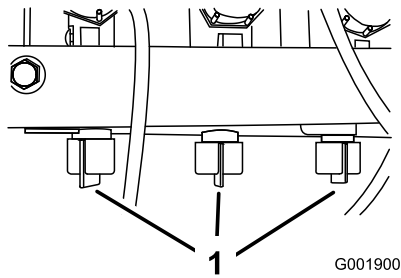

Figure 22
10. Adjust the boom bypass valve (Figure 22) under the boom control valve for the boom you turned off